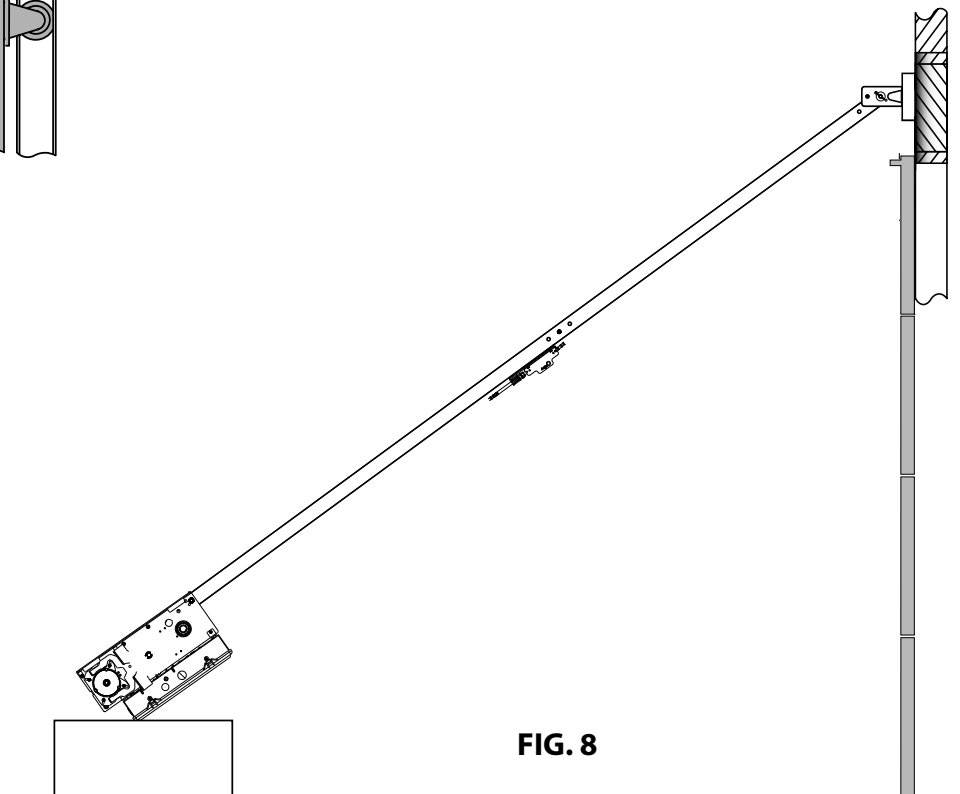

FIG. 8
8. Position the spreader bracket on the centerline with its bottom edge on the horizontal mark. FIG. 8.